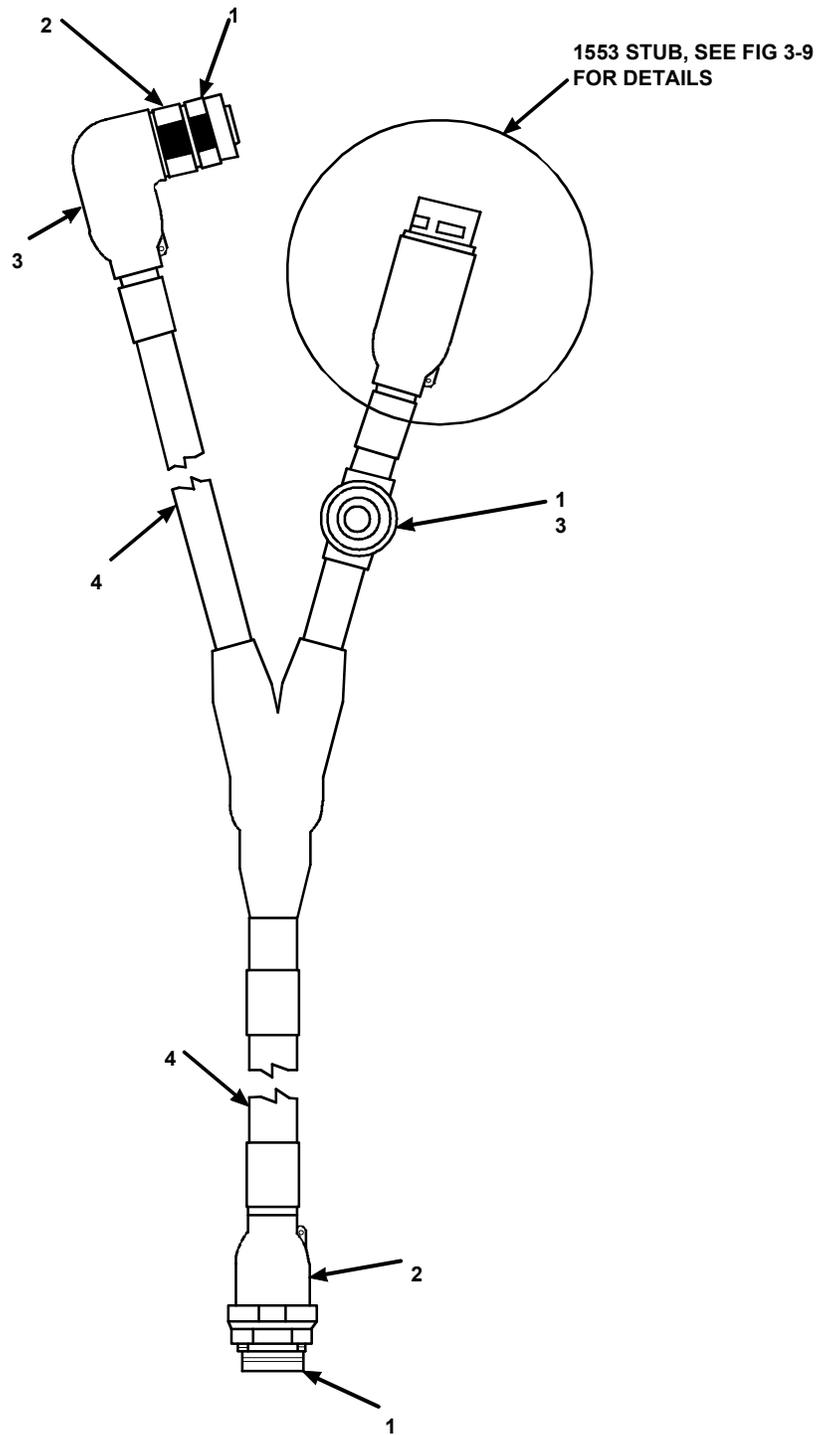

Figure 3-4. Power and Data Cable (5-Meter), P/N 12991852
3.3.4 General Repair Requirements. Refer to Figure 3-4. Repair or replace cable connectors as follows:
- n. Using small brush, clean sealing compound residue from threads of connector body (1) and backshell (2).
- o. Apply primer to threads of connector body (1 j and backshell (2).
- p. Apply sealing compound to threads of connector body (1) and backshell (2).
- q. Screw backshell (2) on connector body (1) and torque to 3.7 in. lb (5 N.m).
- r. Apply S1184 adhesive to inside of boot (3) to bond with cable shield and backshell (2).
- s. Apply S1125 adhesive inside of boot (3) for bonding to cable jacket (4) and backshell (2).
- t. Place boot (3) on backshell (2).
- u. Using heat gun, apply heat uniformly to boot (3) until boot shrinks to form secure seal around backshell (2) and cable (4).
3.3.5 Inspection. Refer to Figure 3-4. Inspect Power and Data Cable (5-Meter) as follows: